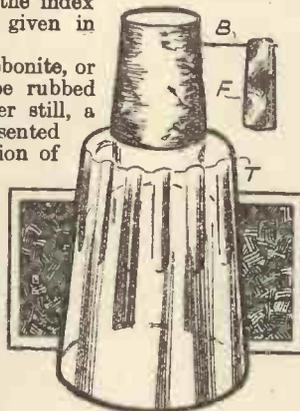

Fig. 2.—Another type of electroscope.
Fig. 2.—Side elevation of micro-polariscope. The materials required are (A) 1 baseboard, $9 \times 2\frac{1}{4}$ in. of $\frac{1}{2}$ -in. wood. (B) 2 adjustment rails, each $7\frac{1}{2}$ in. of brass rail. (C) 6 brass rail clamps for locking and adjusting. (D) 3 squares $\frac{3}{8}$ -in. plywood with 1-in. diameter hole, as shown. (E) 1 rectangle similar to (D), but $2 \times 2\frac{1}{2}$ in., and fixed to M. (F) $\frac{1}{2}$ polariser in mounting tube as described. (J) 1 analyser in tube as described. (K) 1 magnifying lens as described. (L) 2 spring clips to grip specimen slides. (M) 1 strip wood, $2\frac{1}{4} \times \frac{1}{2} \times \frac{1}{2}$ in. to support (E).
The apparatus shown at Fig. 2 is pretty well self-explanatory. The tubes F and J are the tube mounted "prisms" we have just discussed, and are carried in blocks of wood, 2 in. square by $\frac{3}{8}$ in. thick in the case of the analyser (J), and $2 \times 2\frac{1}{2} \times \frac{3}{8}$ in. thick in the case of the polariser (F). The other two blocks, pictured between these two, are each $2 \times 2 \times \frac{3}{8}$ in. thick, and constitute (D3) a block with 1 in. hole through which the light passes from F to the object under examination, which is held in place over this aperture by the two clips (L); and D2, a precisely similar block, but in this case the aperture has an ordinary magnifying lens inserted in the aperture and kept in place by putty, plastic-wood, or clip rings, as may be most convenient.
A modification of the electroscope is presented in Fig. 2. From an inspection of the figure it will be seen that a needle B pushed into the side of the cork has hung from it a folded strip of paper or foil F. Obviously, any other light material, such as pith, feathers, wool, etc., may be suspended from the needle